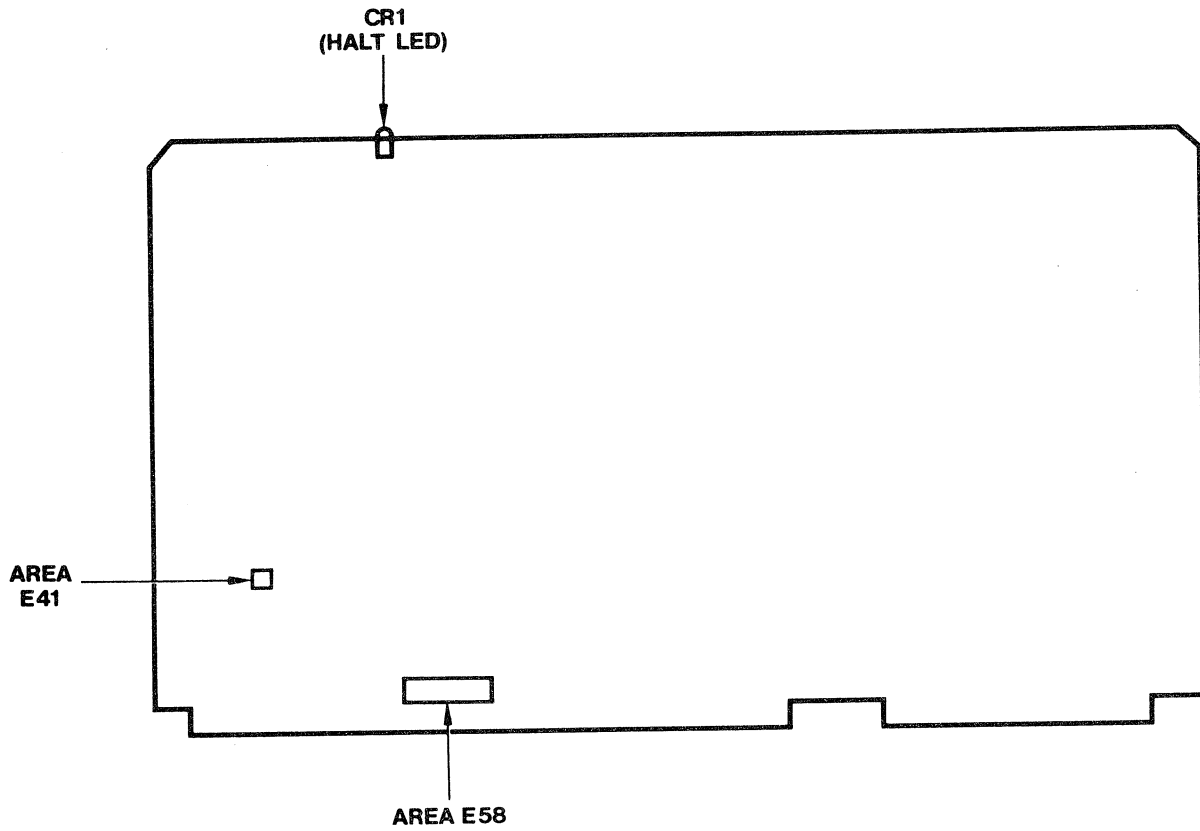

Figure 5-7 SIO-16 Board
Figure 5-7 illustrates the position of the halt LED and configuration areas on the SIO-16 board. The following paragraph describes configuration areas on the SIO-16 module.
- **Areas E41 and E58** are used to assign the SIO-16 board number (SIO 1 through SIO 4) and to set the Multibus interrupt. Table 5-10 lists the SIO board number assigned by each combination of shorting plug positions. The location of these configuration areas is shown in Figure 5-7.